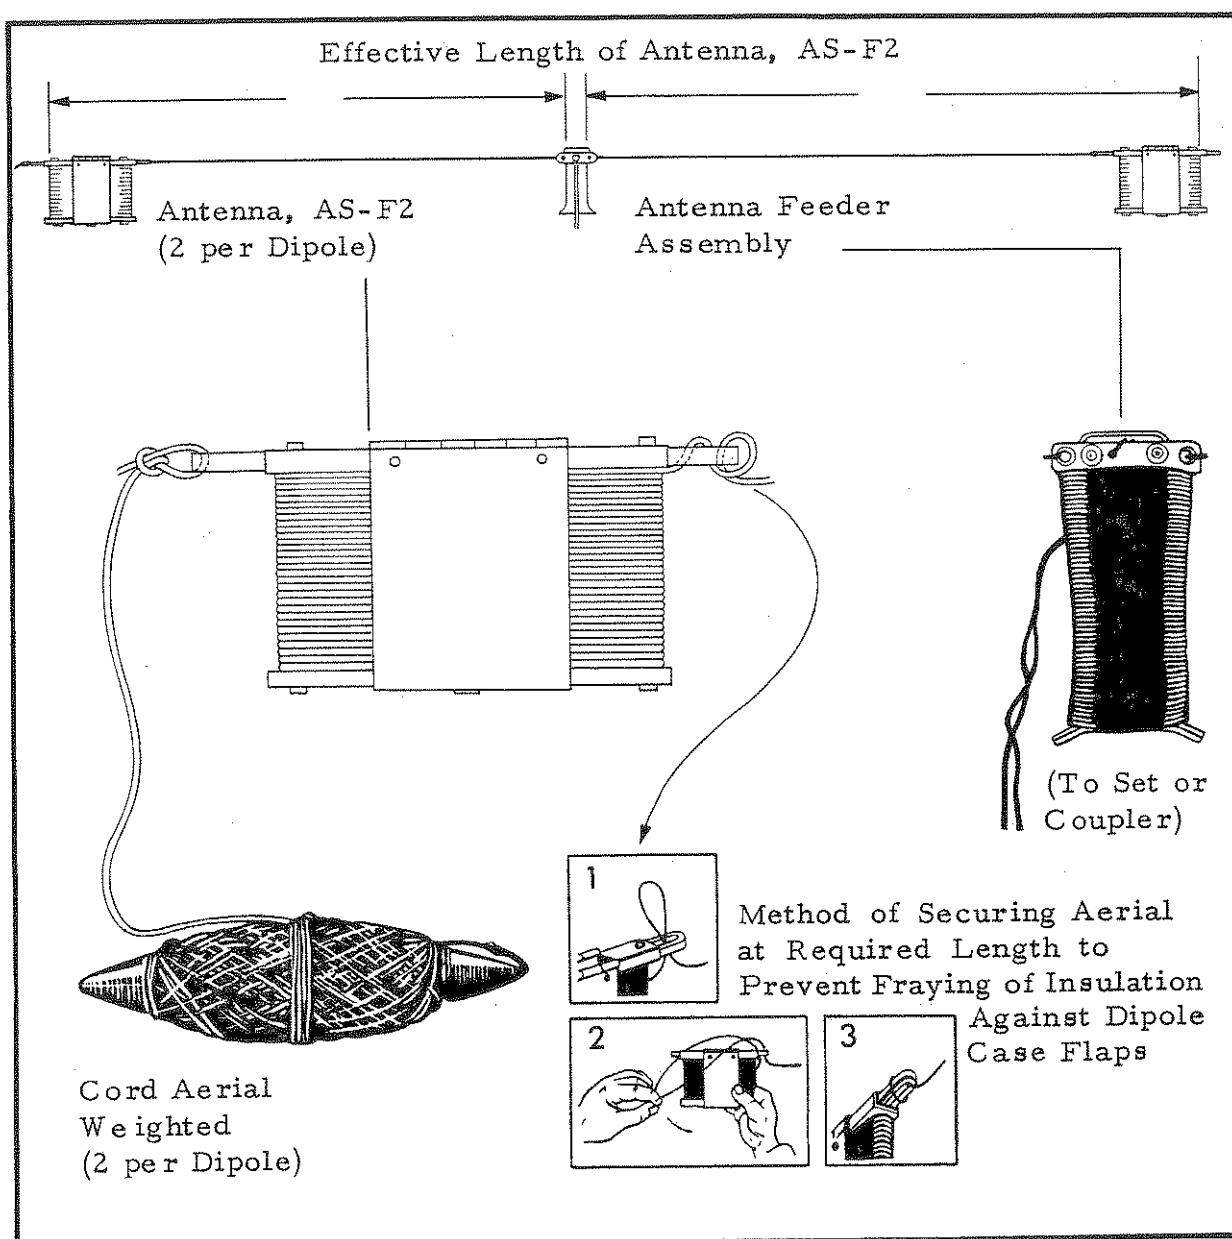

FIG 52
- c. Close the flaps of the cases and secure the wires by passing a loop of wire through the insulator, over the case and back around the insulator (see Fig 52).